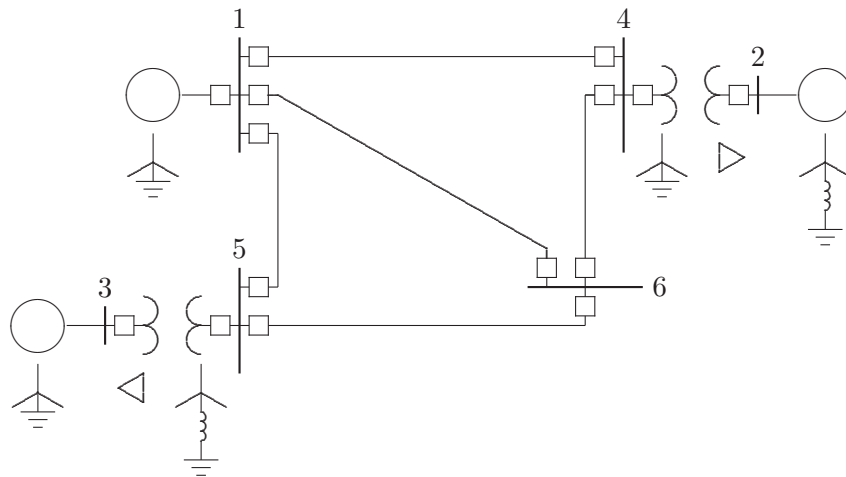

FIGURE 89
10.21. The six-bus power system network of an electric utility company is shown in Figure 89. The positive- and zero-sequence reactances of the lines and transformers in per unit on a 100-MVA base is tabulated below. The transformer connections are shown in Figure 89. The Δ -Y transformer between buses 3 and 5 is grounded through a reactor of reactance 0.10 per unit. The generator's positive- and zero-sequence reactances including the reactance of grounding neutrals on a 100-MVA base is tabulated below.